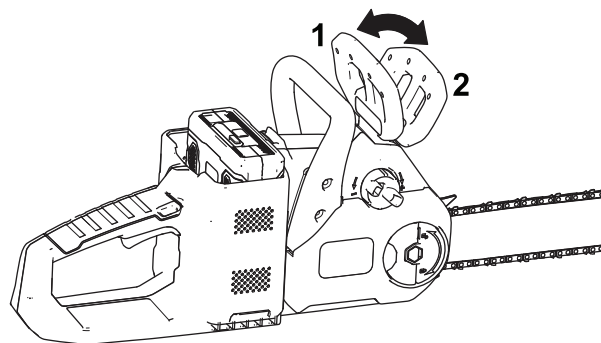

Figure 27
- Engage the chain brake by moving the chain brake forward to the STOP position (Figure 27).
- Disengage the chain brake by moving the chain brake rearward to the OPERATING position (Figure 27).
2. Unfold the wing-nut tab and loosen, but do not remove the wing nut on the cover (Figure 27).